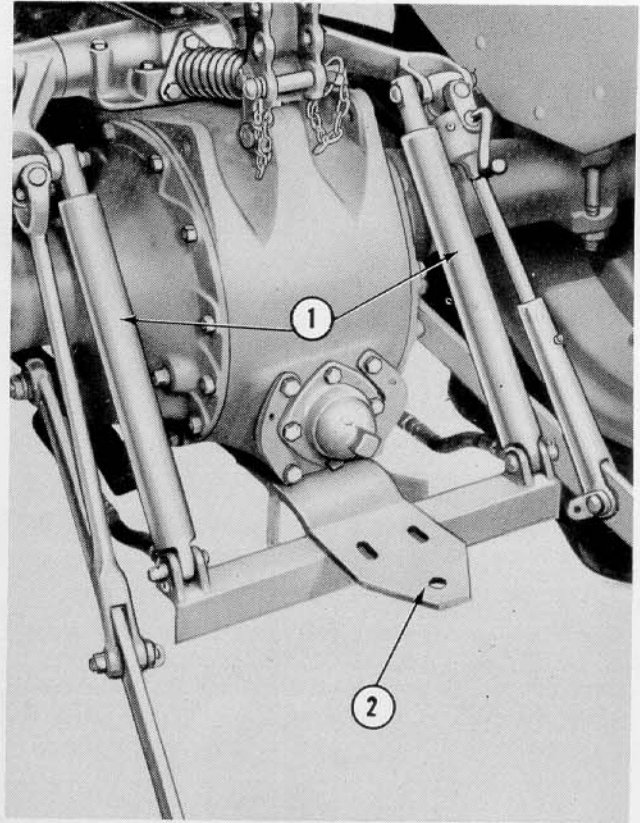

Figure 11
The Dearborn Rear Mounted Loader can easily be detached from the tractor in a few minutes. The hydraulic booster cylinders (1), Figure 11, and bracket (2) may be left on the tractor except when using the Side Mounted Mower or Belt Pulley Assembly. To detach the loader:
tractor with the loader attached, to pull a wagon or manure spreader to the field, raise the loader high enough to give clearance for attaching the tongue to the extended hitch (2), Figure 11.